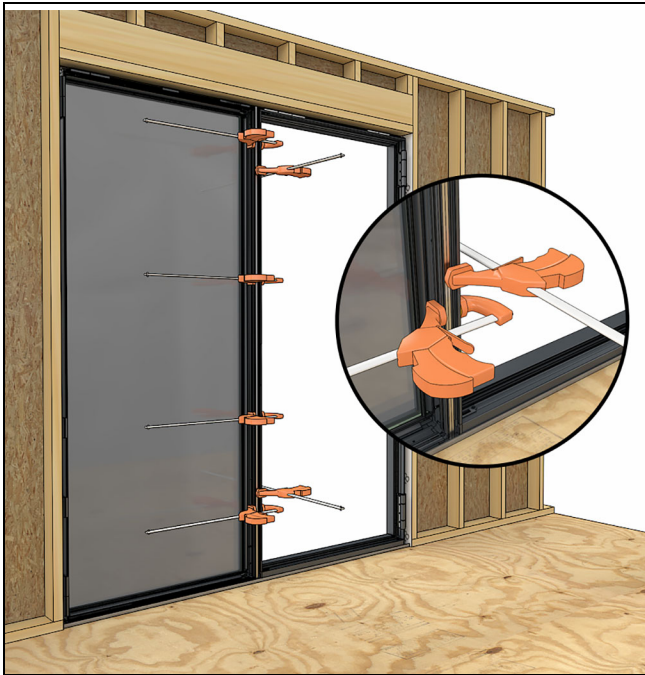

Figure 24
4. Slide the second frame into the first and if possible, clamp both side to side and in/out to flush the frames. See Figure 24.